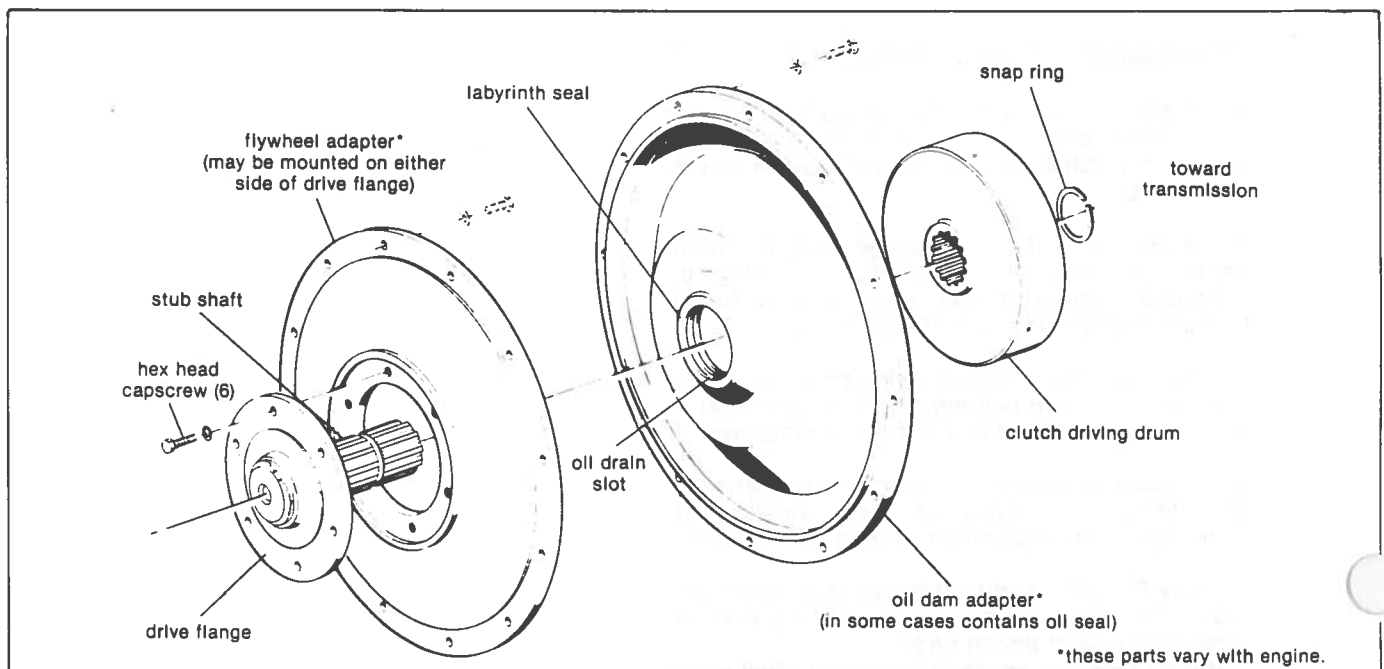

Fig. 31. Adapter Parts
2. Remove oil dam adapter and inspect labyrinth oil seal on inside diameter (Some special units have a positive seal installed). Repair or replace as necessary (wear or damage to seal indicates misalignment—check further!) (See fig. 31).